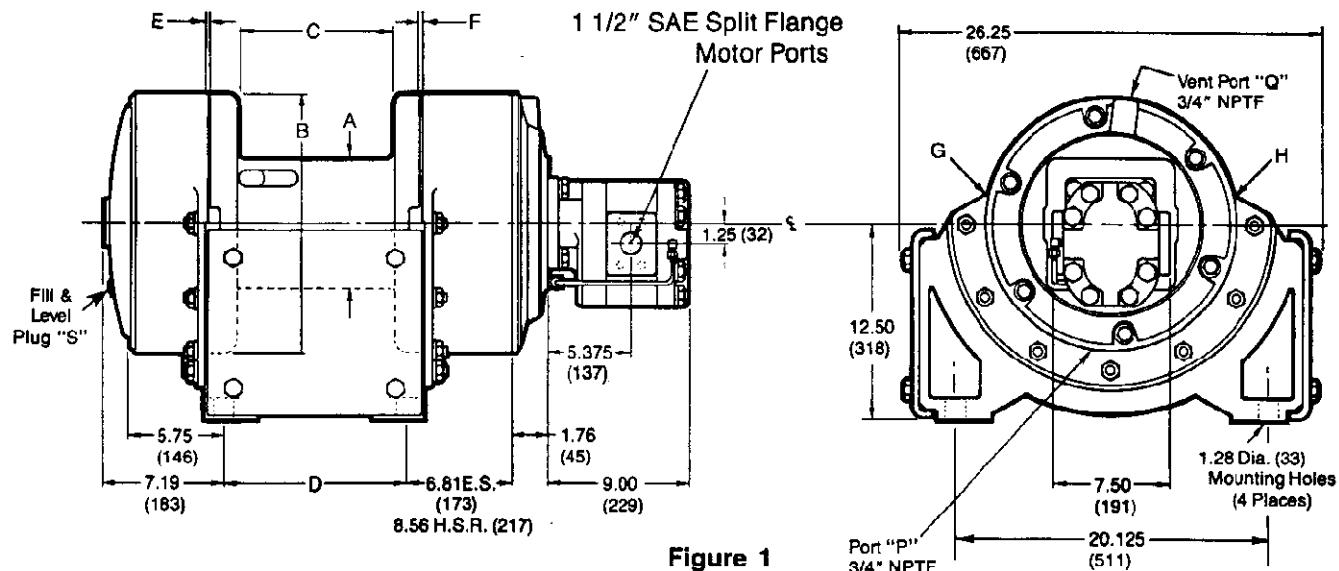

Figure 1
As a final installation test, check clearance between the drum and end housings at two (2) locations around the winch. The clearance should be equal within .010" (0.254 mm). Repeat test for each side of winch. Left and right hand sides need not equal each other. If necessary, install steel shims under winch mounting pads to achieve even mounting. (Ref. Figure 1)